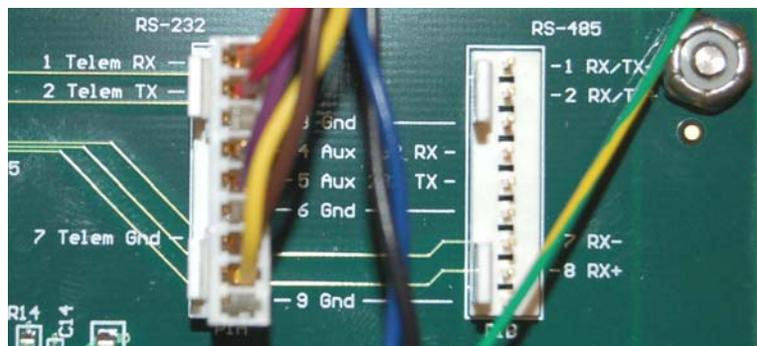

Figure 18 RS-232 / RS-485 connection points
1. Open the master controller as described in “Removing the Faceplate” section on page 82. The “P1A” connector for RS-232 communications (Default) and “P1B” for RS-485 communications are located at the upper right side of the processor board. In Figure 18 below, the J1 connector terminating the power/telemetry bundle is connected to P1A (RS-232).